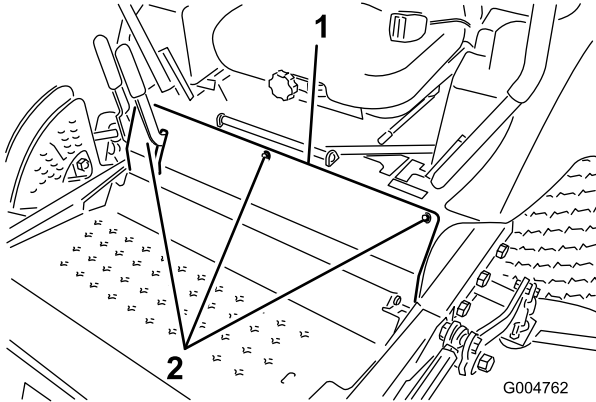

Figure 54
2. Remove the bolts securing the front panel and remove the panel (Figure 54).